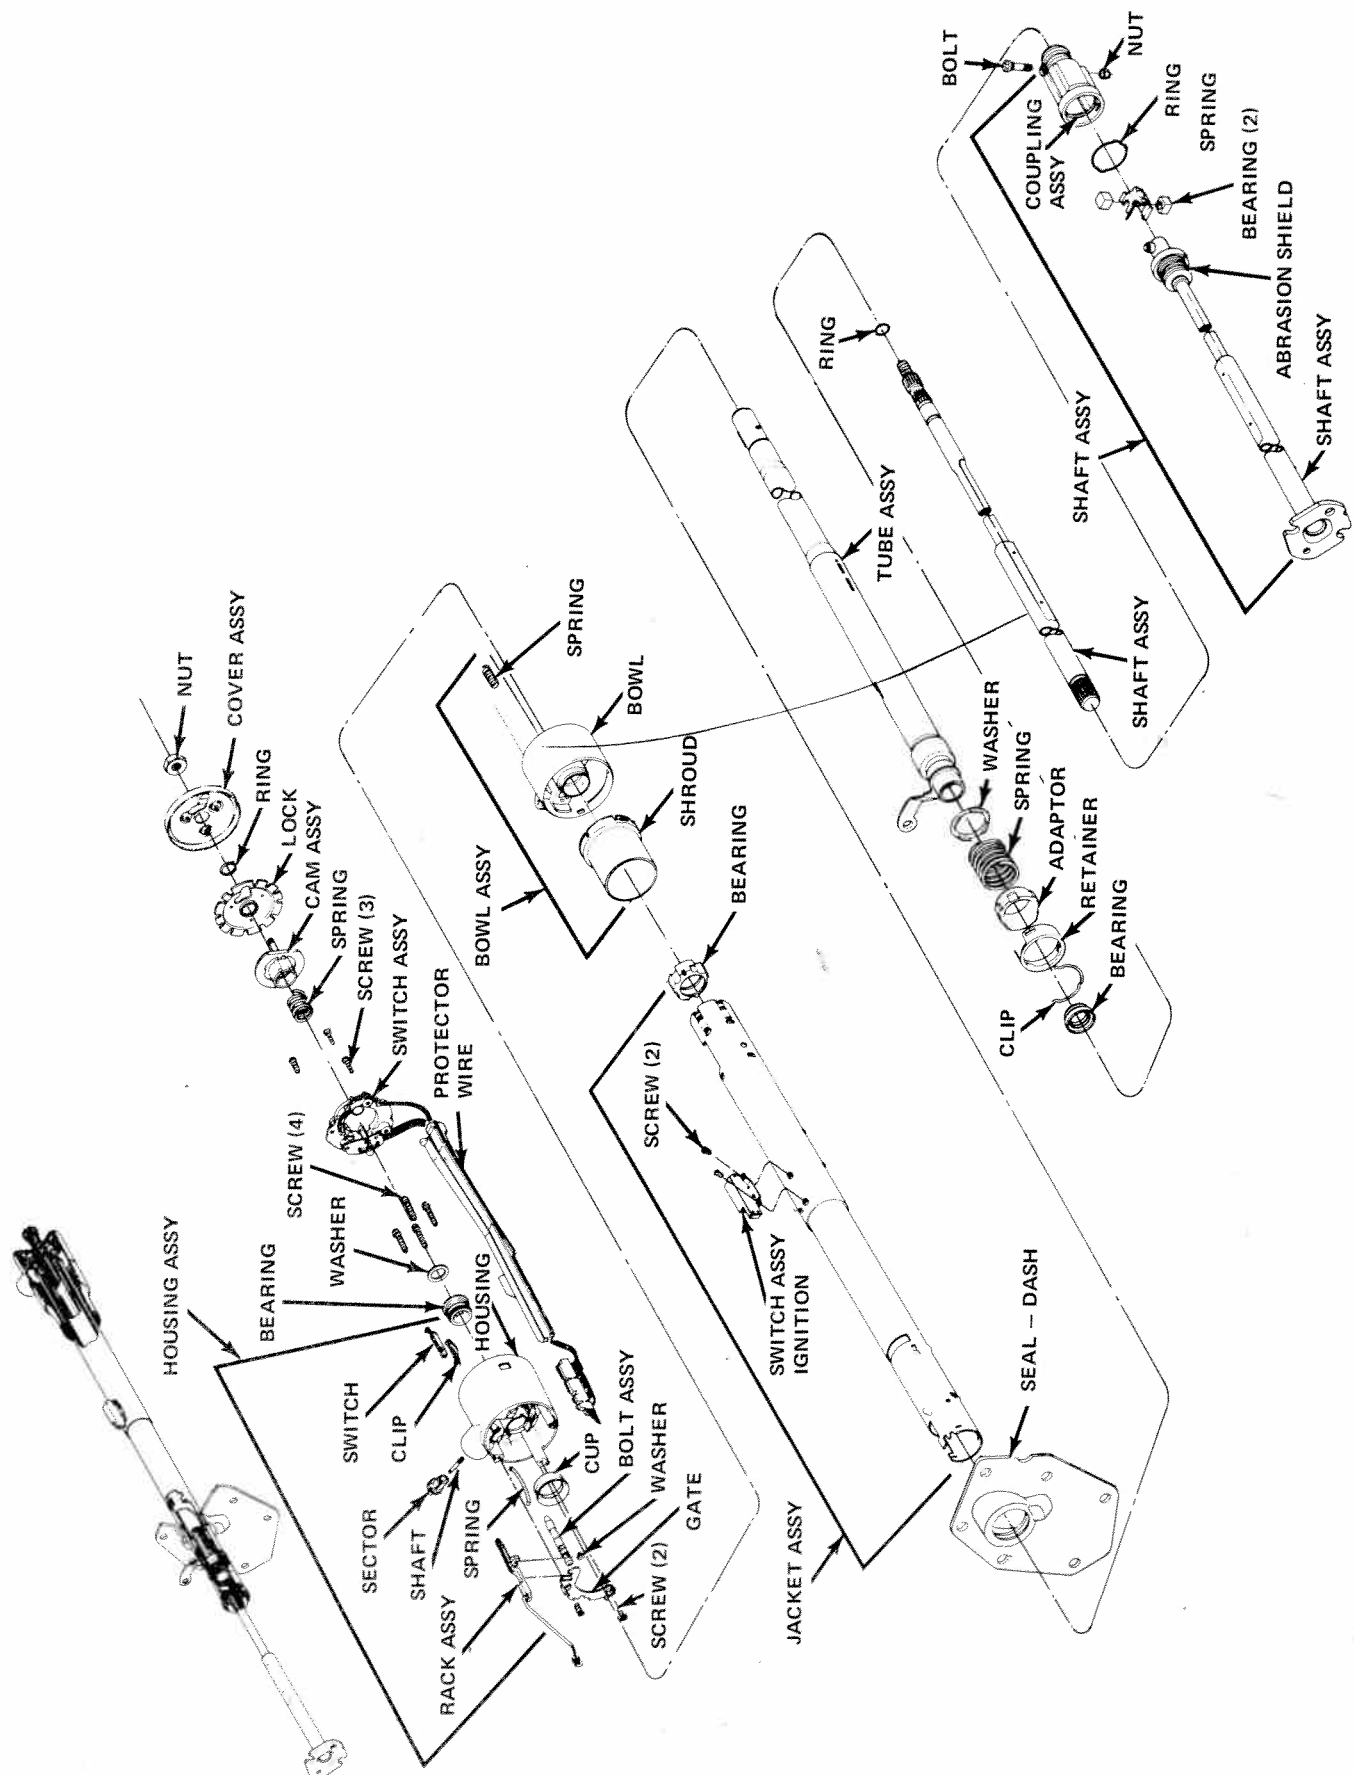

Fig. 11-18 Standard Column Assembly Sequence—Typical
**NOTE:** Refer to figure 11-18 for Standard Column Assembly Sequence.